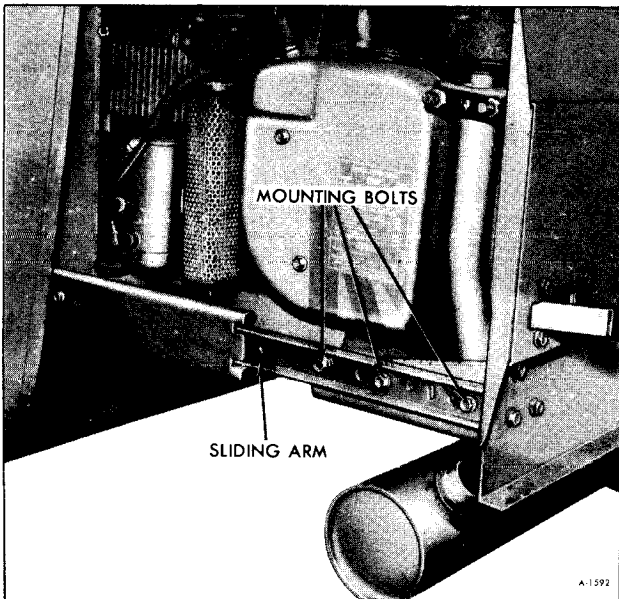

Figure 1—Disconnecting Sliding Arm
6. Remove bolts holding ends of sliding arm to generator as shown in Figure 1.
6. Install mounting bolts to slides as shown in Figure 1.